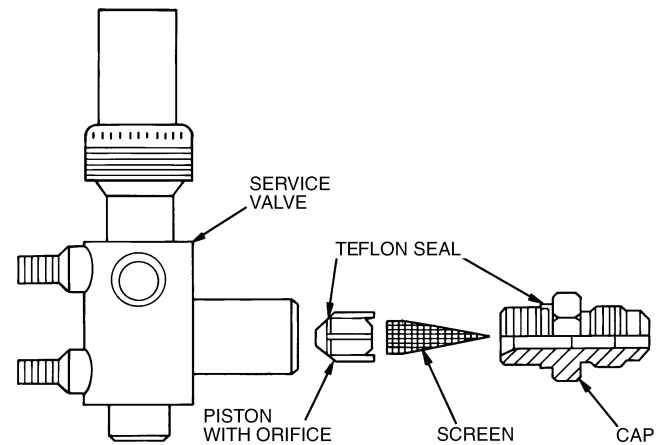

**Fig. 10 — Mounting Hanging Brackets**
4. Mount hanging brackets on ceiling (Fig. 10) for either concealed or exposed bolt hanging position.